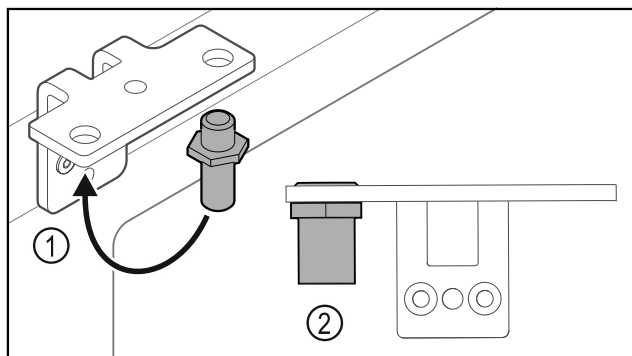

Fig. 25
- Put the pin back into the hinge Fig. 25 (1).
- Tighten the pin Fig. 25 (2) to a **torque of 12 Nm**.